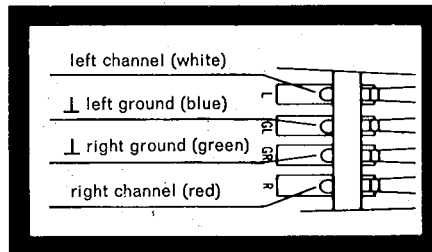

Fig. 12
3. The connections on the cartridge holder are marked and the wire leads are color coded (Fig. 12). Connect the leads with the appropriate terminal pins on the cartridge.